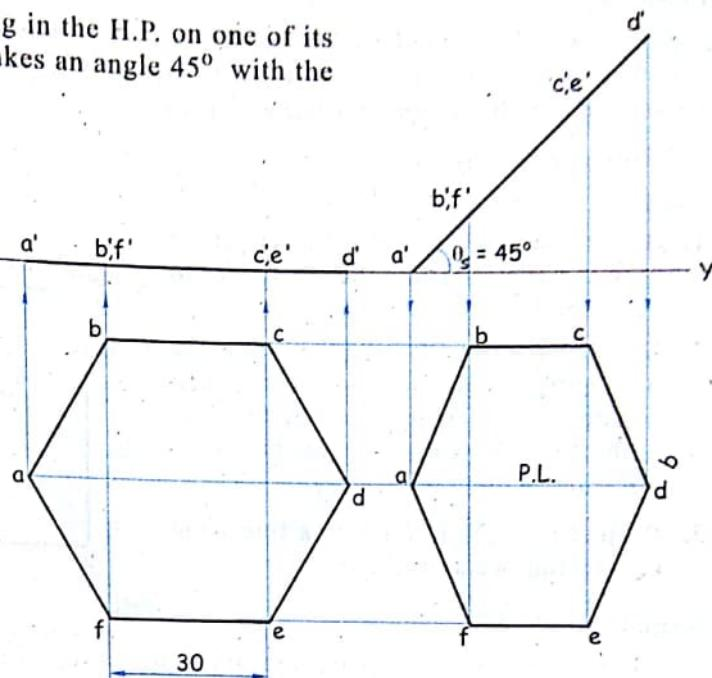

FIG. 9.13
*Solution :* Refer figure 9.13.